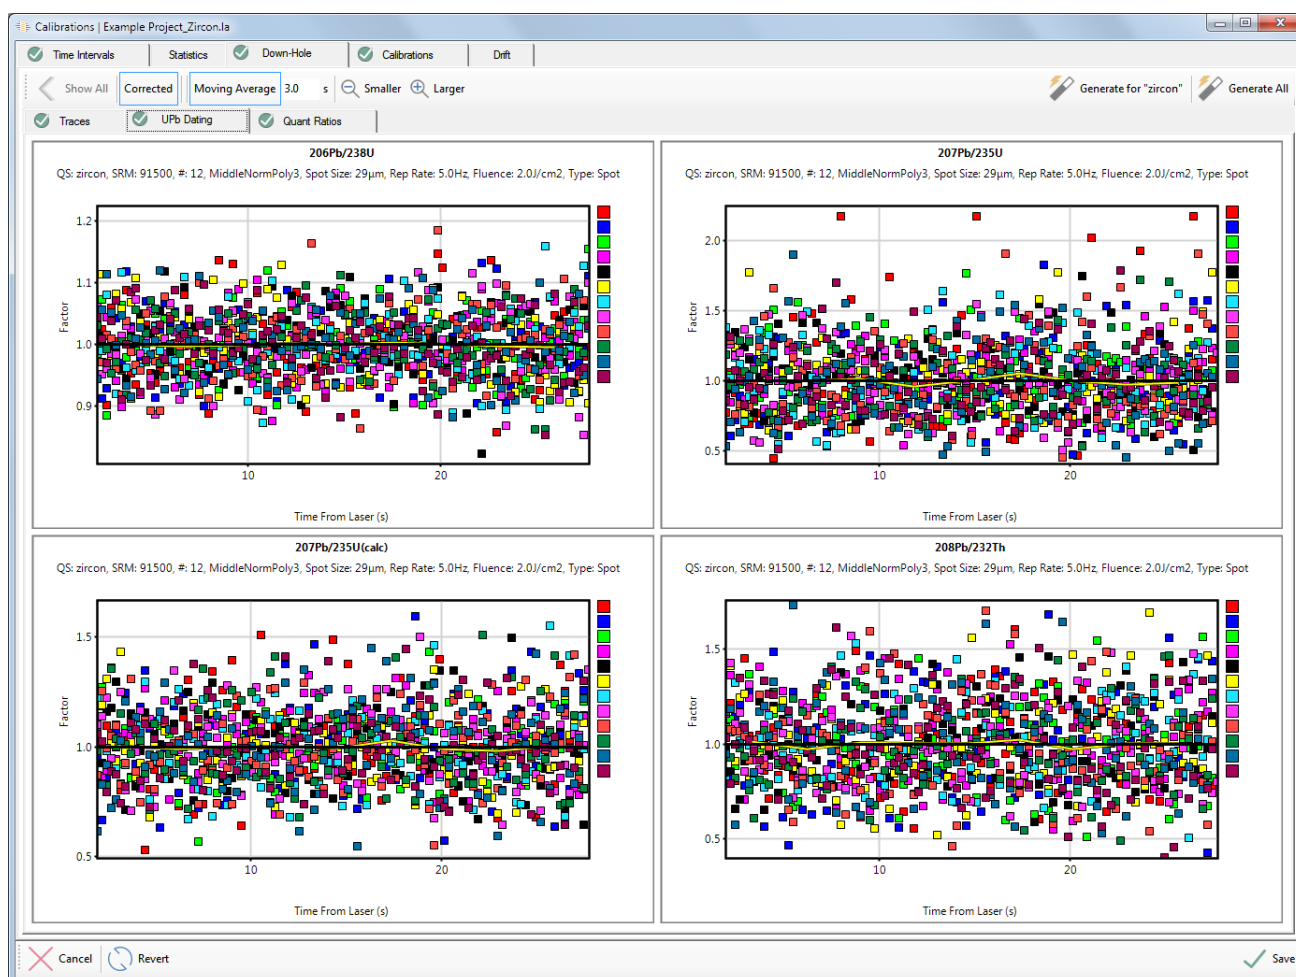

Figure 64 Corrected UPb data for the down-hole fractionation effects.
- Corrected – Show the corrected data, making the down-hole curve equal to 1 throughout the analysis. (Figure 64).